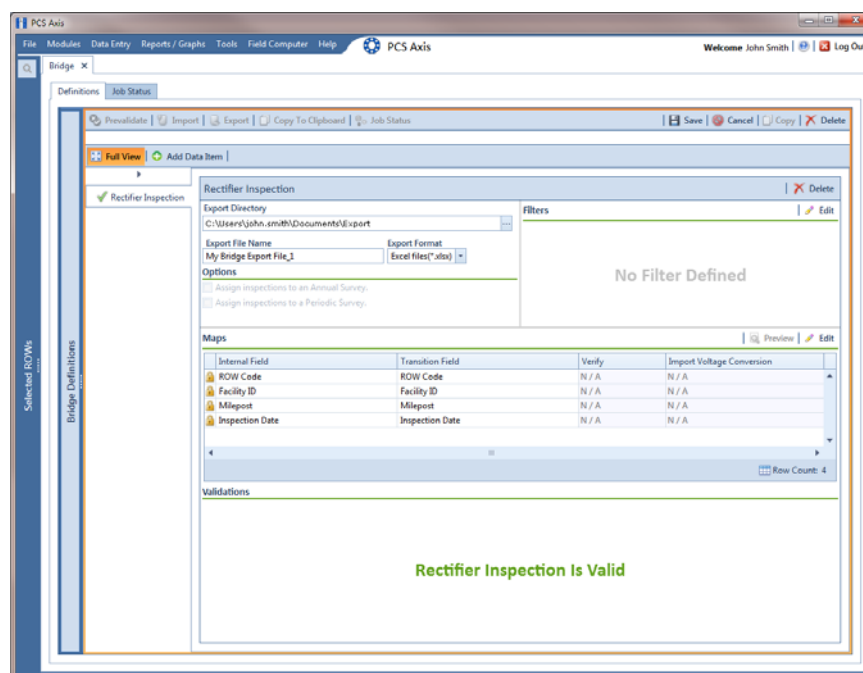

Figure 9-20. Bridge Definition
- c Click **OK** to close the dialog box and return to the definition window (Figure 9-20). Then click **Save**.